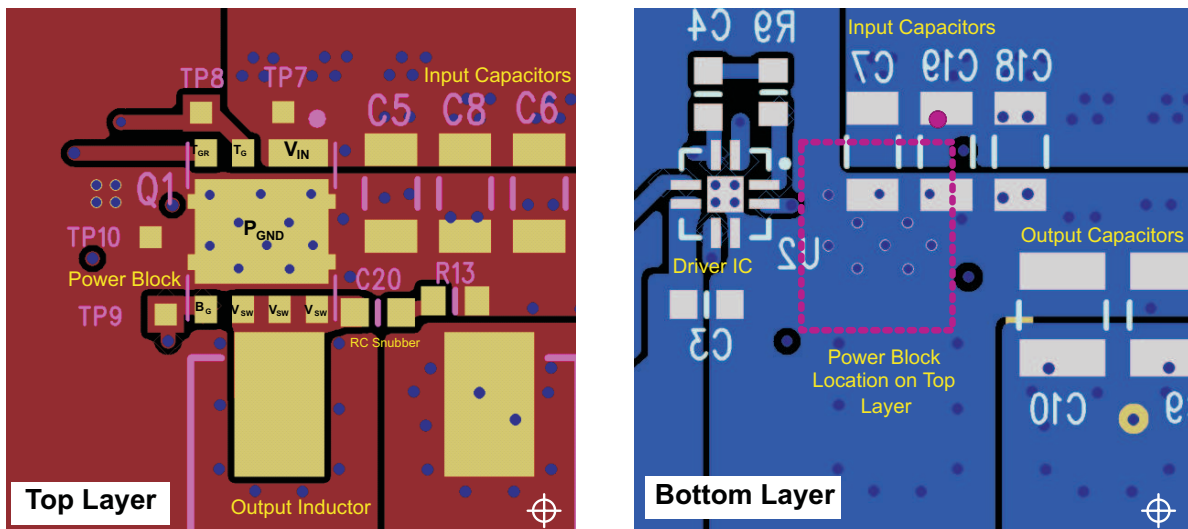

Figure 33. Recommended PCB Layout (Top View)
- The placement of the input capacitors relative to the Power Block's VIN and PGND pins should have the highest priority during the component placement routine. It is critical to minimize these node lengths. As such, ceramic input capacitors need to be placed as close as possible to the VIN and PGND pins (see Figure 33). The example in Figure 33 uses 6 \times 10- μ F ceramic capacitors (TDK Part # C3216X5R1C106KT or equivalent). Notice there are ceramic capacitors on both sides of the board with an appropriate amount of vias interconnecting both layers. In terms of priority of placement next to the Power Block, C5, C7, C19, and C8 should follow in order.
- In the event the switch node waveform exhibits ringing that reaches undesirable levels, the use of a Boost Resistor or RC snubber can be an effective way to reduce the peak ring level. The recommended Boost Resistor value will range between 1 Ω to 4.7 Ω depending on the output characteristics of Driver IC used in conjunction with the Power Block. The RC snubber values can range from 0.5 Ω to 2.2 Ω for the R and 330 pF to 2200 pF for the C. Refer to TI App Note SLUP100 for more details on how to properly tune the RC snubber values. The RC snubber should be placed as close as possible to the Vsw node and PGND see Figure 33.⁽¹⁾
- Use the smallest drill size allowed in your design. The example in Figure 33 uses vias with a 10 mil drill hole and a 16 mil capture pad.